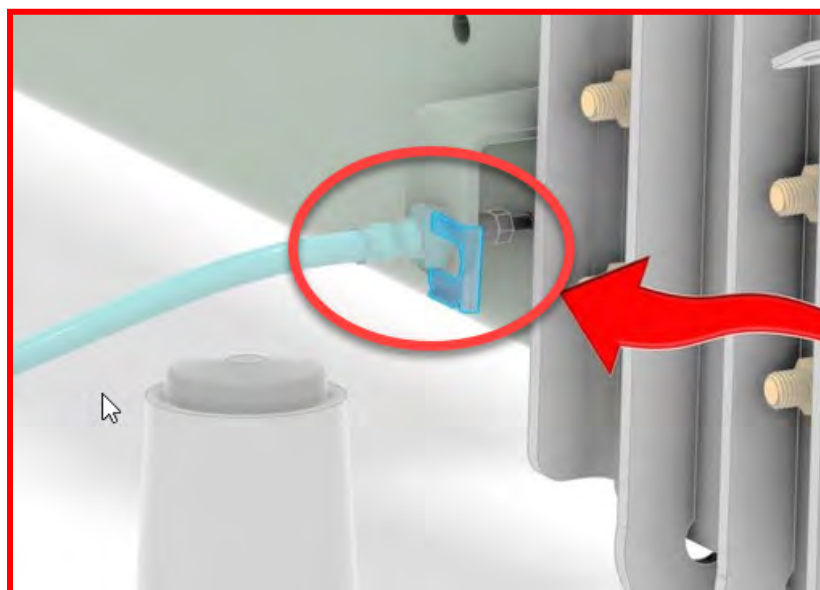

Figure 16 - Front Brake Line Clip
- Remove the brake line clip from the frame-side bracket (Figure 16)